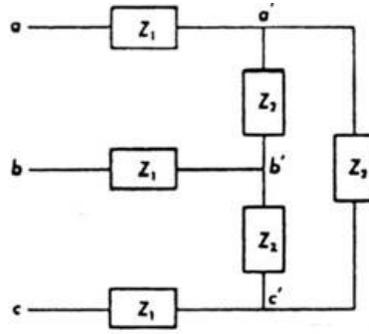

Figure A.3
A.4. In the circuit of Figure A.3, $\bar{Z}_1 = 1 \angle 60^\circ$ and $\bar{Z}_2 = 5 \angle 36.9^\circ$. The line voltages at the terminals a, b, c, are 230 V. Find the magnitude of the line currents, and that of the line voltages at the load terminals.